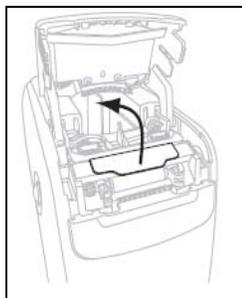

Figure 7
- 4e.) Refer to Figure 7. Grasp the metal lever plate on the printhead assembly and rotate upward to expose the printhead elements.